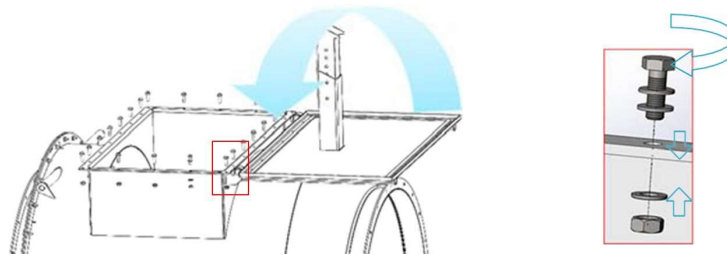

Figure 13 : Closing inspection panel
Step 3: Close the inspection panel as shown in Figure 13. If necessary, renew the sealing band to make sure it remains airtight (15 x 5 EPDM Celrubber).